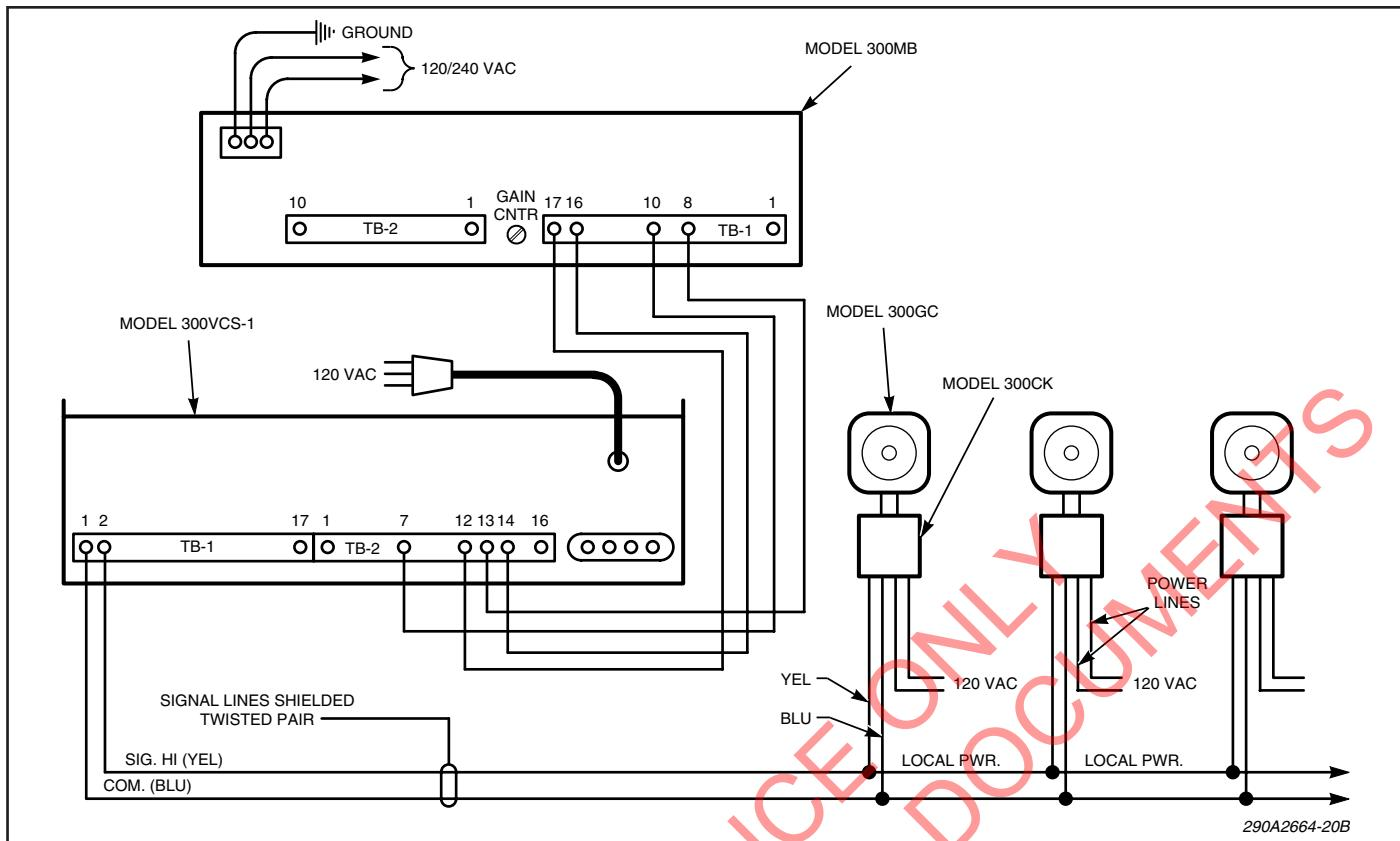

Figure 3-6. Models 300MB and 300VSC-1.
B. 300MB Interface with a 300VSC-1, 300SCW-1, 300SSC (see figure 3-6 and table 3-2).